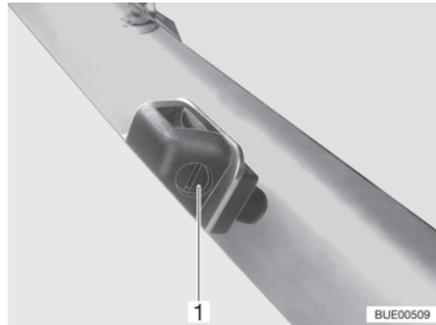

Fig. 41 Washer nozzle
- Adjusting: ■ Use a suitable screwdriver to turn the adjusting screw (Fig. 41,1) until you reach the desired position.